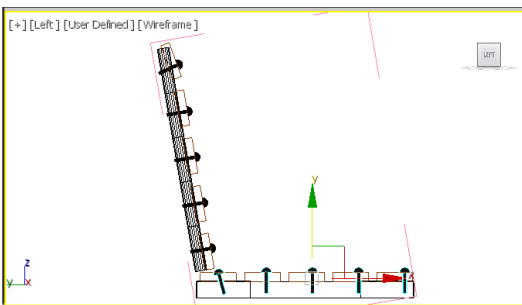

Figure 2-94 Alignment of right side seat rivets in the Left viewport
9. Choose the **Select and Move** tool. Now, move the cursor over the vertical axis and then drag the mouse downward to align *right side seat rivets* with *horizontal seat support*, as shown in Figure 2-94.